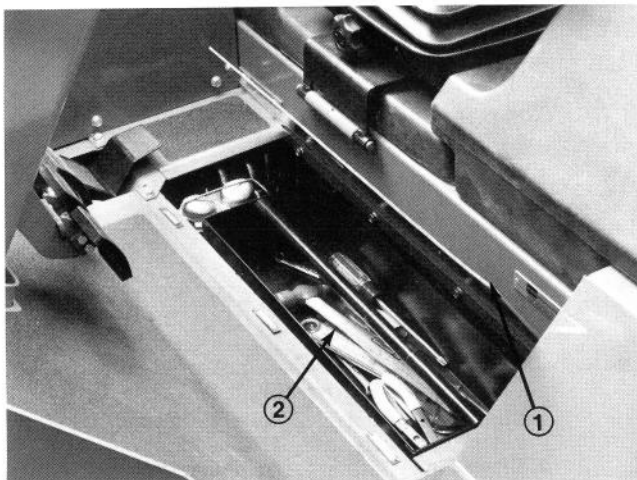

Figure 54
1. Raise floor panel in front of seat (Fig. 54). Remove tool tray.
2. Remove deck tilt link from tool box under traction unit floor (Fig. 54) and klik pins from weldments on traction unit frame and cutting unit lift arm.
6. Use at least one other person to tilt the cutting unit. Grasp the front of the unit and lift it to an upright position (Fig. 54).